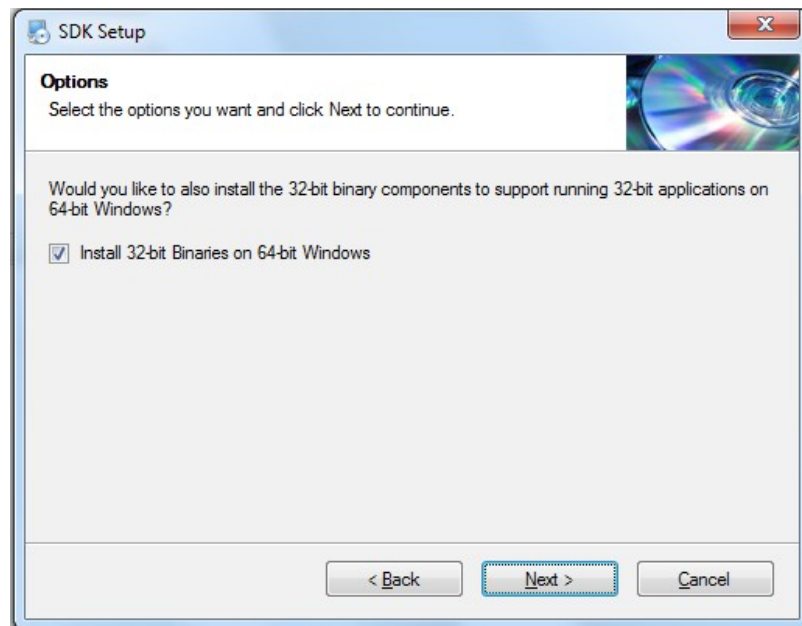

Figure 1: BitFlow SDK Setup
**Note: if you are using a 64-bit Windows version please be sure to leave the “*Install 32-bit Binaries on 64-bit Windows*” option checked (see Fig. 1).**